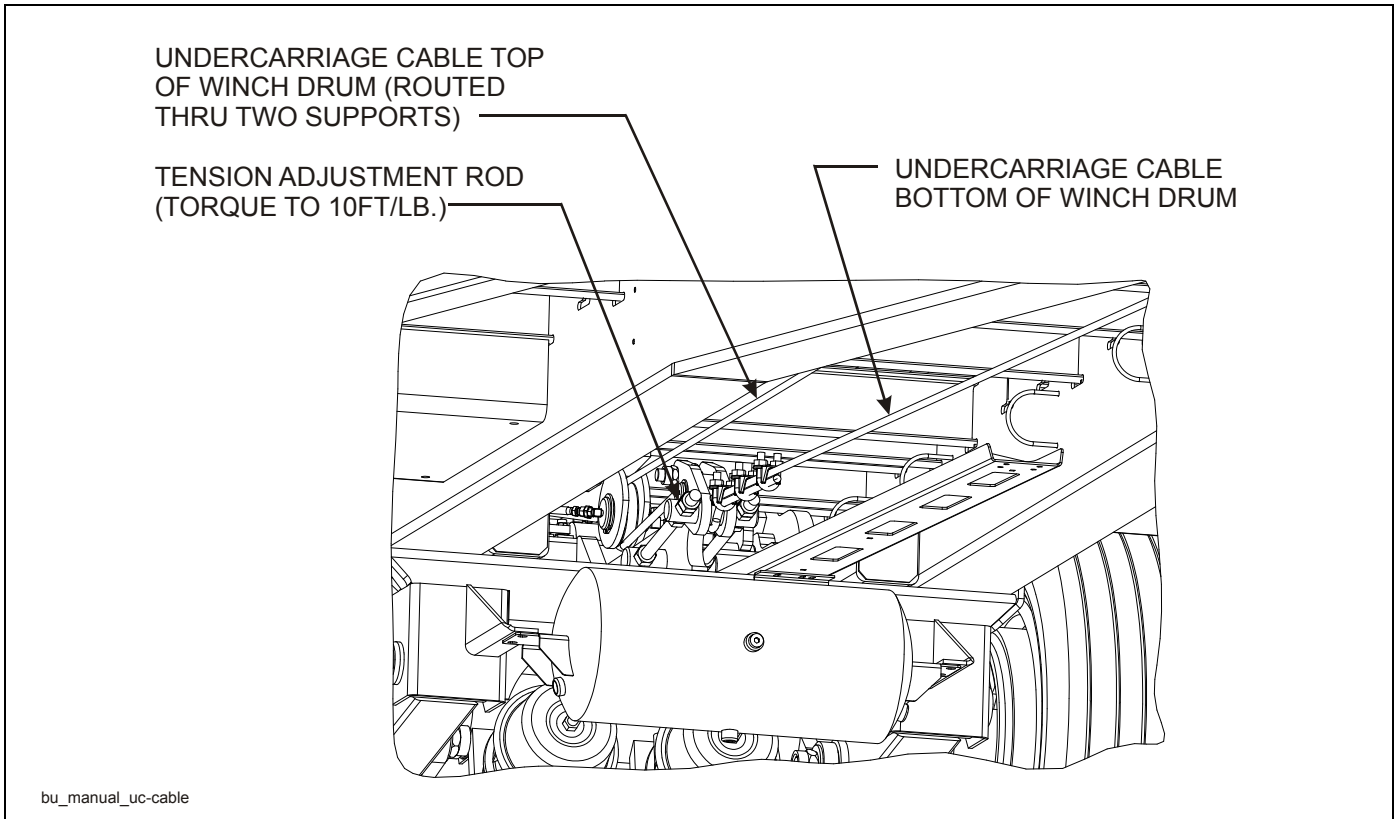

Figure 4-19: Manual Undercarriage Cable Adjustment
- a. The undercarriage cable slack may be reduce by adjusting the tension adjustment rod (torque to 10 ft/lb.) **(See Figure 4-19.)**